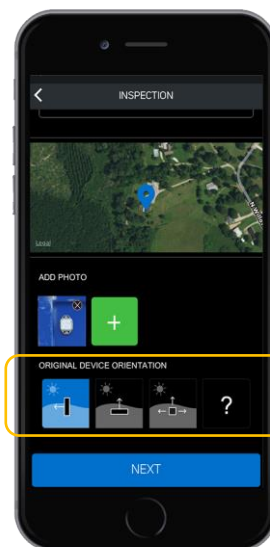

FIG. 3
- 6) The next prompt is “Original Device Orientation”, shown in FIG. 3. A selection here must also be made to move forward. This is in reference to how the device is physically deployed on the asset. Choose the best option that describes the orientation of the device. Tap “Next.”